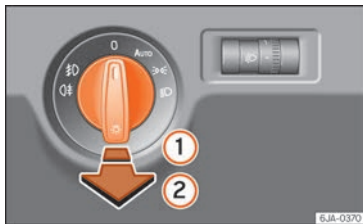

Fig. 132 Instrument panel: light panel.
- First turn the light switch »» Fig. 132 to position **AUTO**, ☞☞ or ☞☞.
- Pull on the light switch to position ①.
- First turn the light switch »» Fig. 132 »» page 124 to position **AUTO**, ☞☞ or ☞☞.
- Pull on the light switch to position ②.